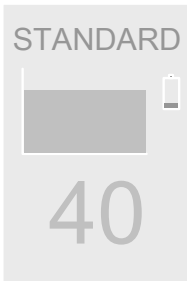

Figure 1
2. When the battery is in low status, the display of handpiece will glow showing battery low sign. Refer to figure 1.